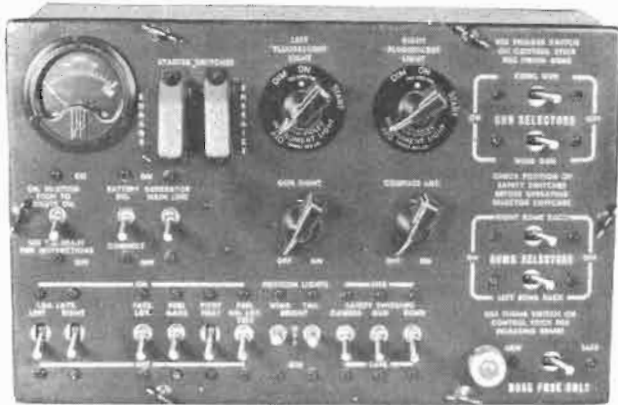

Figure 292 — Front Cockpit Control Panel
(9) BATTERY DISCONNECT SWITCH.—(See figure 292.)—The type B-4 battery disconnect solenoid switch is mounted in the main power panel and is remotely controlled by a toggle switch on the switch panel in the front cockpit. This switch is used to disconnect the battery from the electrical system to prevent discharging when airplane is not in use.